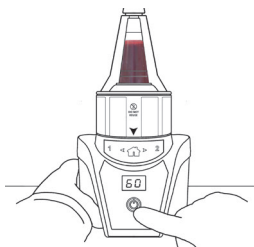

Figure 7
1. Start centrifugation by pressing the Activation Button ☺ (Figure 7).